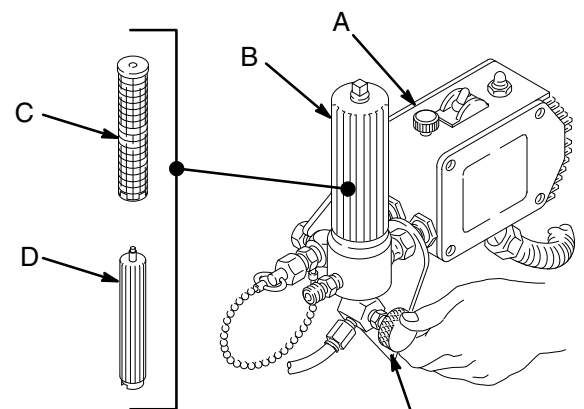

Fig. 7
2. Turn the pressure-adjusting knob (A) fully counter-clockwise to the minimum pressure.
3. Remove the spray tip from the gun. Remove the filter bowl (B) and the screen (C), but leave the support (D) in place. Install the bowl without the screen. See Fig. 7.
8. Unscrew the filter bowl (B) and reinstall the clean screen (C). Install the bowl and hand tighten it.